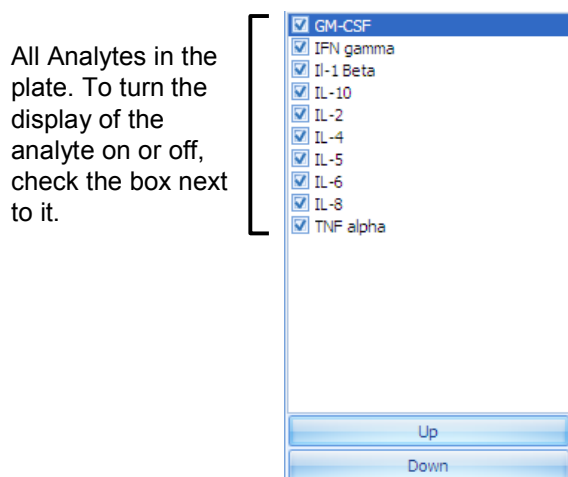

Figure 7.6 Analyte Selector drop-down list
- ⇒ Analyte selector drop-down list appears (Figure 7.6).